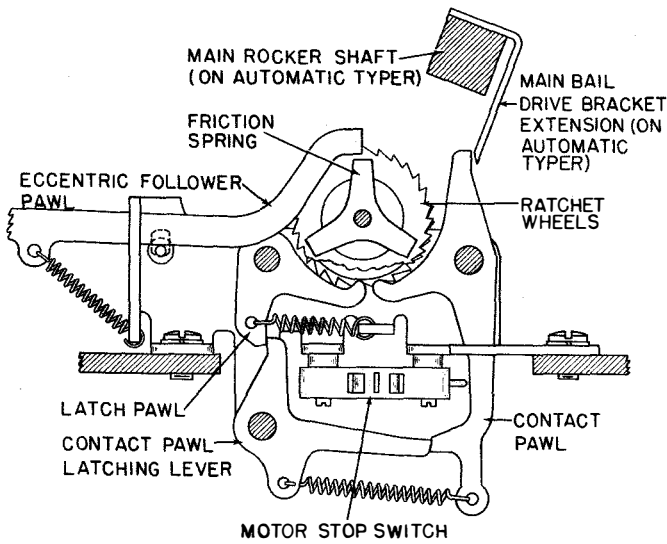

Figure 2-30. Time Delay Mechanism
l. **TIME DELAY MECHANISM.**—As shown in paragraph 6.c. of this section the electrical motor control mechanism in the Power Distribution Panel must receive an electrical pulse to stop the AC Motor. This pulse is supplied by the time delay mechanism on the Keyboard which contains two ratchet wheels—one with 27 teeth, and one with 28 teeth. The reciprocating eccentric follower pawl, powered by the intermediate shaft, drives the ratchet wheels one tooth at a time (figure 2-30). Therefore, the ratchet wheel with 27 teeth